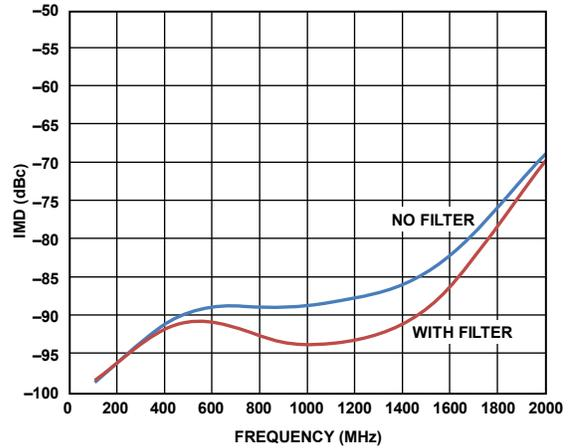
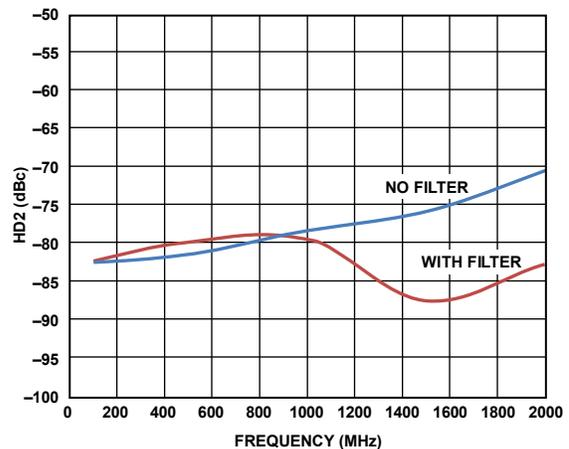

Figure 46. IMD vs. Frequency, With and Without LC Filter
Figure 47. HD2 vs. Frequency, With and Without LC Filter
The high frequency distortion performance of the ADA4961 can be enhanced by adding a low-pass filter to the output (see Figure 46 and Figure 47). A two-pole low-pass filter is used in the ADC Driving section to illustrate the distortion improvement capabilities and integrated noise reduction. Figure 49 shows a simplified diagram of a two-pole low-pass (LP) filter. The inductor capacitance (LC) values are 2 nH and 2 pF respectively. This filter gives an overall -3 dB BW of 2 GHz when connected to the ADA4961. Ideally, the BW is 3.5 GHz without any parasitics. The parasitic, C, (about 1 pF) across the 2 nH inductor (not shown) reduces the BW to about 2.1 GHz.